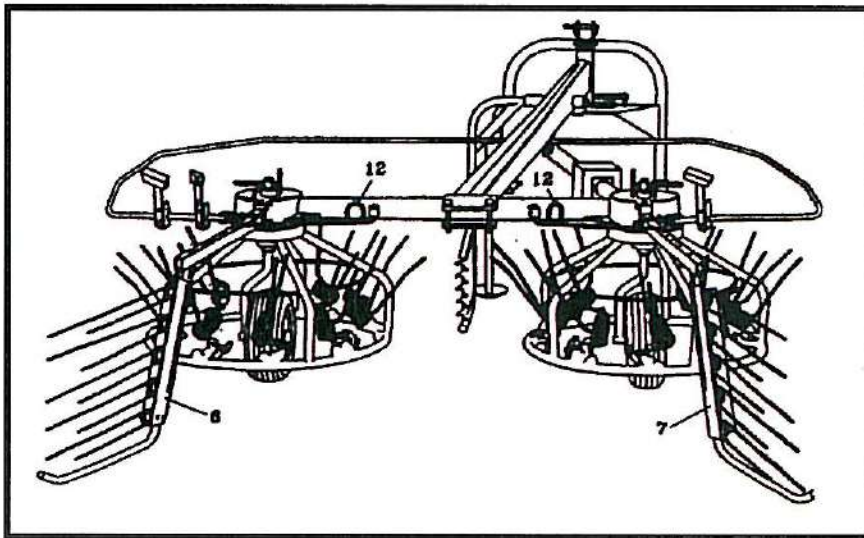

Fig. 15. Setting the screens for tedding.
- Set the wanted width of tedding with the screens 6 and 7 and stops 12 (Fig. 15.)